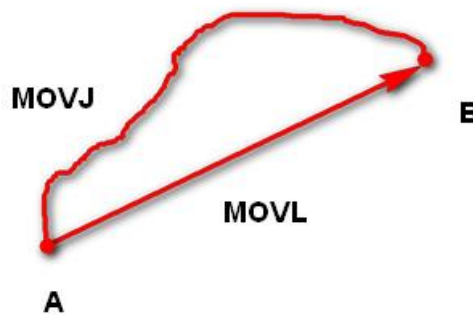

Figure 2.7 MOVJ/MOVL mode
- **MOVJ**: Joint movement. From point A to point B, each joint will run from the initial angle to its target angle, regardless of the trajectory, as shown in Figure 2.7.
- **MOVL**: Rectilinear movement. The joints will perform a straight line trajectory from point A to point B, as shown in Figure 2.7.